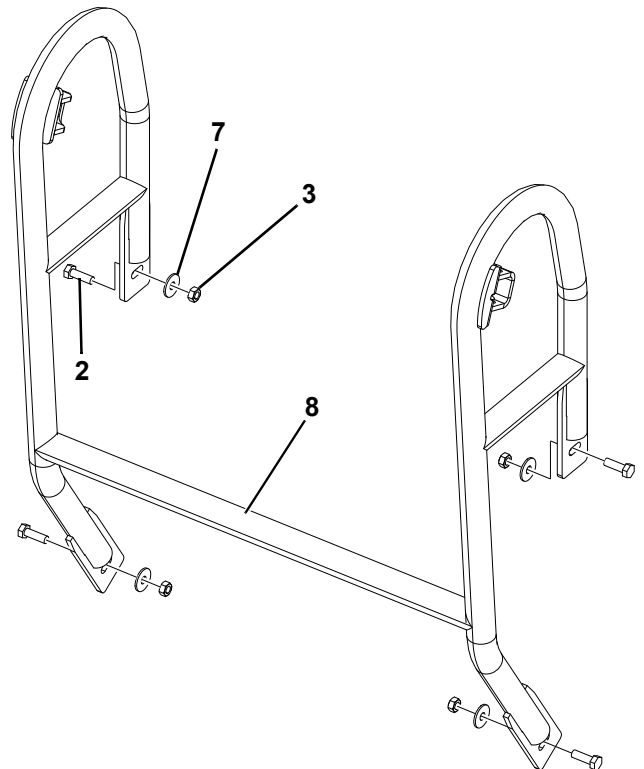

Figure 4-49.
1. Install the SkyGuard Support Bracket (8) onto the welded mounts on platform rails, secure the support bracket using four Bolts (2), relevant Washers (7) and Nuts (3). See Figure 4-49.
4. Position SkyGuard switch assembly with sensor cover onto the SkyGuard Support Bracket (8) as shown in Figure 4-49.